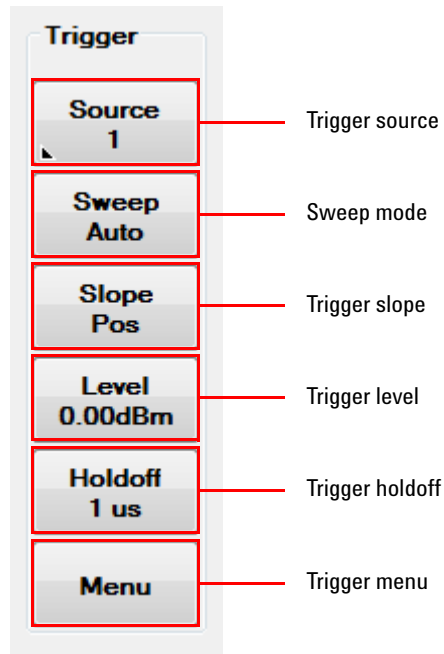

Figure 2-38 Trigger menu on the graphical interface
- 1 To configure the trigger settings, select the individual buttons on the Trigger menu to toggle between selections or access the menu dialog as shown in Figure 2-38.